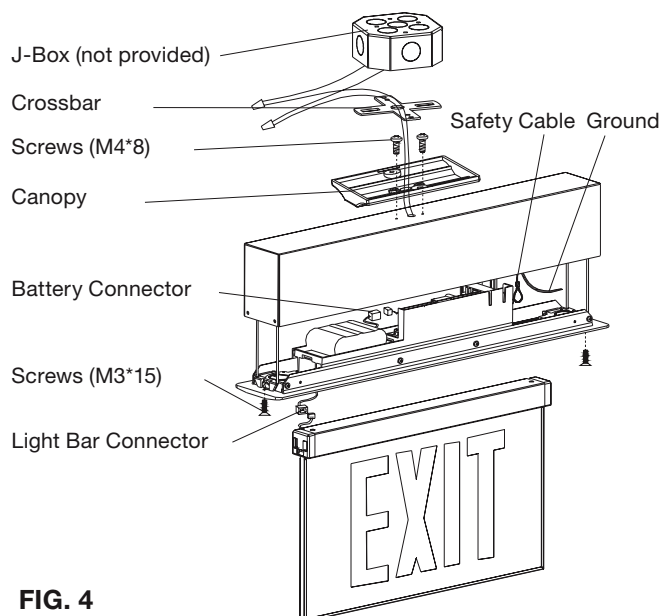

FIG. 4
CEILING MOUNT (see Fig. 4)
1. Position recessed mount between joists. Make sure bar hangers will be hung in the correct position. Position recessed mount by hammering "nail-in" tabs on bar hangers, before securing permanently with nails. Bar hangers should be level with bottom of the joists. Adjust height of recessed mounts vertically by using adjusting slots. Secure the mount by tightening all screws on the adjusting slots and bar hanger bracket. (see Fig. 4)